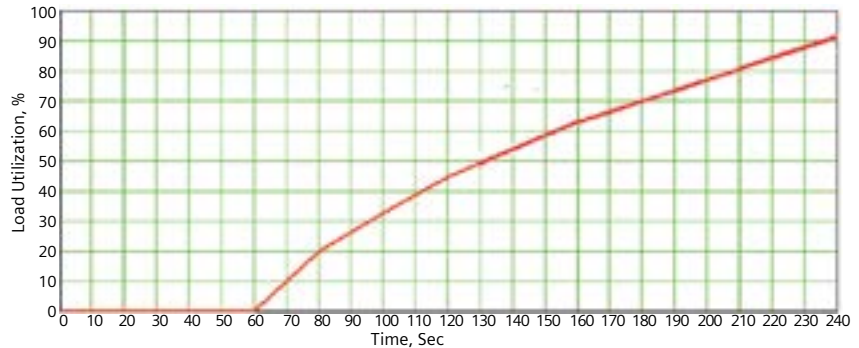

Figure 10: Furnace load utilization coefficient.
The developed method efficiency can be defined by estimation of load level utilization of the furnace. The "Load Utilization (LU)" coefficient may be used for the goal. The LU coefficient is defined as a ratio between mass of molten load output and mass of furnace charge. As the Figure 10 shows, at the use of movable induction coil, the LU coefficient is more than 90 percent.